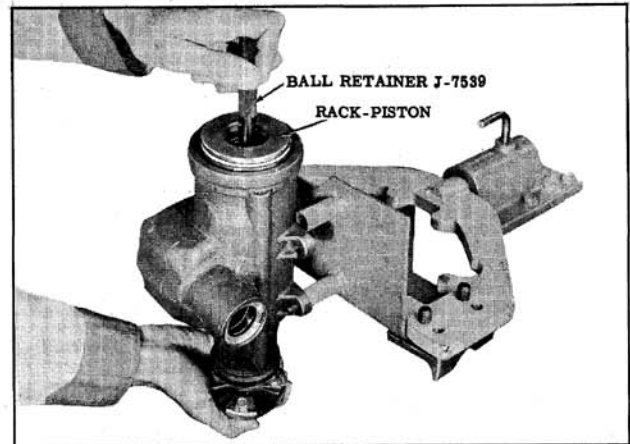

Fig. 8-45 Removing Rack-Piston
- a. Insert Ball Retainer Tool J-7539 into the rack-piston bore with pilot of tool seated in the end of the worm. (Fig. 8-45) Turn lower shaft counterclockwise while holding tool tightly against worm. The rack-piston will be forced onto the tool.